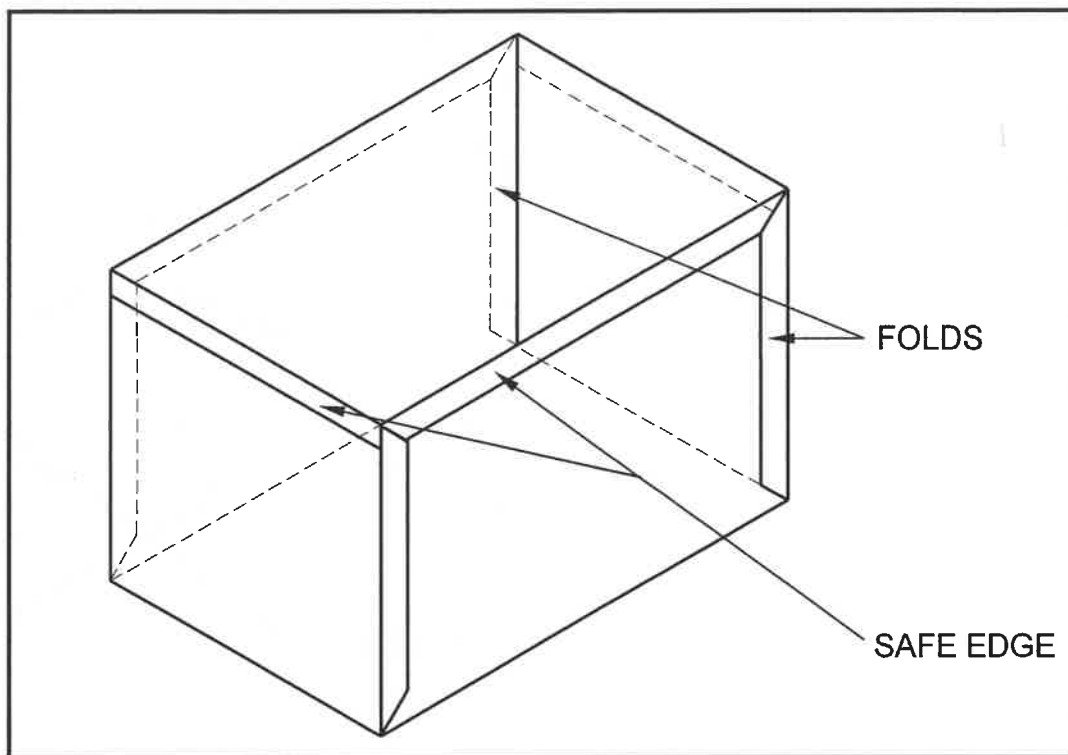

FIGURE 6.5
- 6.5 FIGURE 6.5 below shows the isometric view of a box made from 0,5 mm galvanised sheet metal.